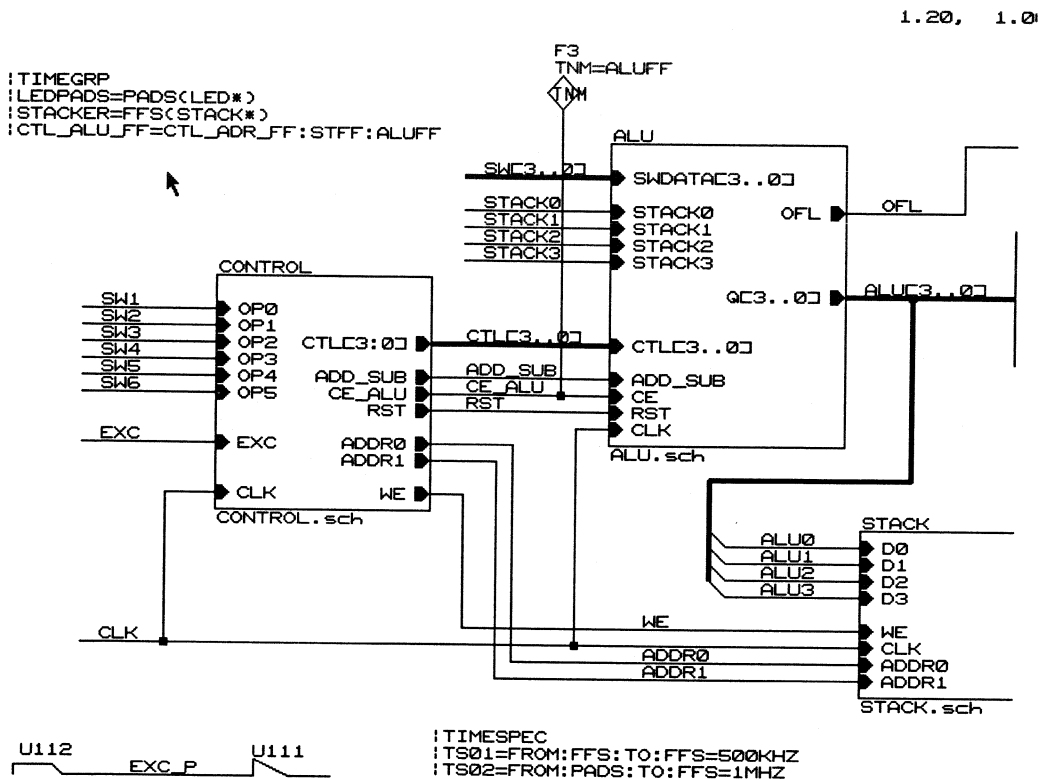

Figure 15-6 TIMEGRP Attributes on CALC Schematic
2. Place the following text in the upper left corner of the CALC schematic, as shown in Figure 15-6.
2. Place the following text directly below the previous TIMEGRP text, similar to Figure 15-6. (Figure 15-6 shows the TIMEGRP text for the 3020APC68.) Make sure that the pipe characters are lined up vertically.
2. Place the following text directly below the previous TIMEGRP text, as shown in Figure 15-6. Make sure that the pipe characters are lined up vertically.
1. Use the Place Text command to place the following text directly below the previous TIMEGRP text, as shown in Figure 15-6. Make sure that the pipe characters are lined up vertically.